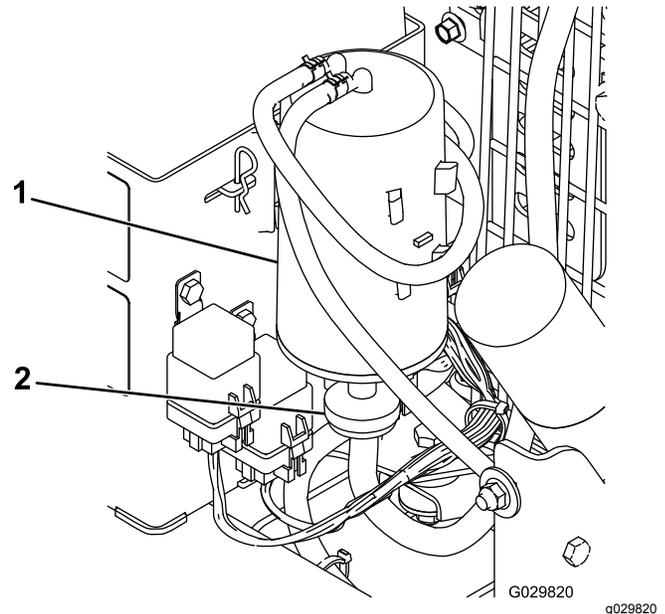

Figure 17
2. Remove and discard the carbon canister air filter (Figure 17).